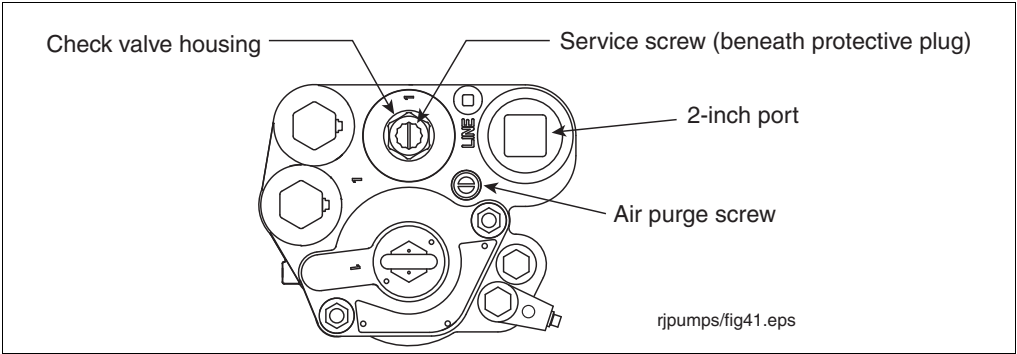

Figure 38. Locating Air Purge Screw
2. Remove and save the protective plug in the top of the check valve housing and turn the service screw clockwise (see Figure 38). As the screw approaches its bottom position, you will hear the system depressurizing. Continue turning the screw until it can go no further. When the screw is all the way down, backoff the screw 4 turns to lift the check valve and let the fuel drain out of the manifold's hydraulic cavities.
5. Locate the air purge screw on the top of the manifold (Figure 38).